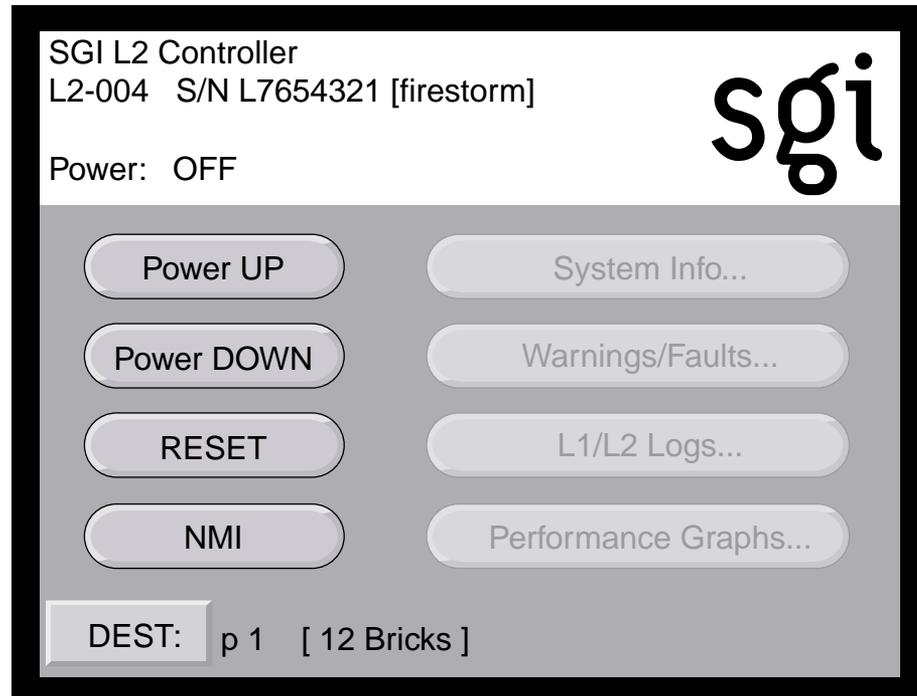

Figure 4-22 Home Window with Partition Destination
7. The **New DEST** field shows *p 1*, which indicates partition **001** was selected as the new destination. If you select **Apply**, your selection is confirmed and the home window, shown in Figure 4-22, appears. The **DEST** field shows *p 1 [12 Bricks]*, which indicates that all 12 bricks belonging to partition 1 is the new destination.